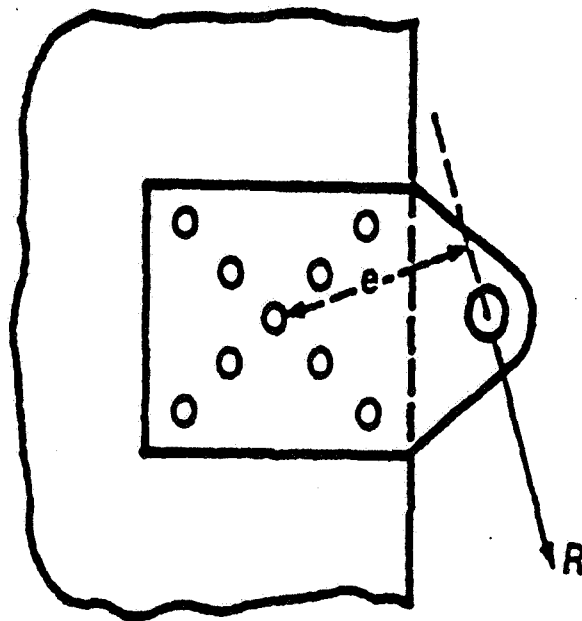

Figure 25
- **Shear Loads on a Fastener Group (Using Figures 25 and 26)**
In many cases, the fastener pattern will be symmetrical, as shown in Figure 25, such that the centroid calculations are unnecessary. With the centroid located, the next step is to divide the load (R) by the number of fasteners (n) to get the direct shear load (P_c) on each fastener.